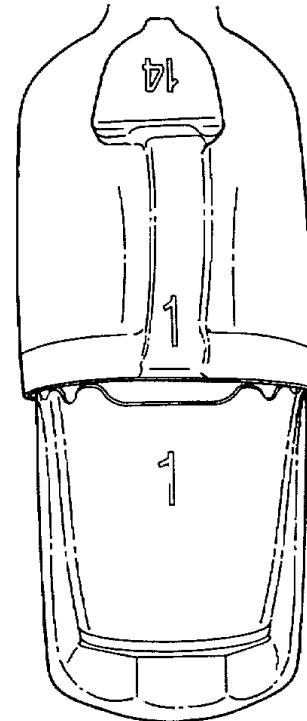
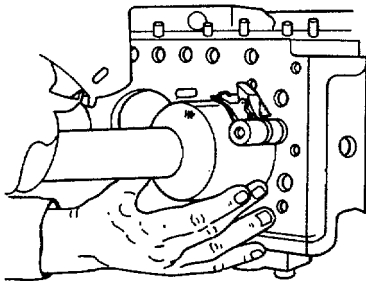

Figure 5-20. Connecting Rod Matching Ends.
Figure 5-24. Piston Installation .
- (1) If original pistons (5) are to be installed, they must be assembled to the same connecting rod (6), i.e., no. 1 piston to no. 1 connecting rod assembly. See Figures 5-20 and 5-21 for location of piston and connecting rod numbering. Any new components fitted should be numbered the same as those that they replace.
- (2) Warm the piston (5) in a suitable clean liquid (usually water) to a temperature of 100-120°F (40-50°C). This will enable the piston pin (4) to be easily pushed into the piston bore when the piston and connecting rod (6) have been correctly aligned.
- (3) Place no. 1 piston (5) onto its head, noting the position of the mark previously made to indicate FRONT.
- (4) Hold no. 1 connecting rod (6) with the small end between the piston pin bores so that the word FRONT cast on the rod is toward the same side.
- (5) Push the piston pin (4) into the piston, locating the connecting rod (6) in position.
- (6) Install the two new retaining rings (3) securely in piston pin grooves.
- (7) Repeat this procedure for the three remaining pistons and connecting rods.
- (8) Install piston rings (1).
- (1) Before fitting the piston (5) and connecting rod assemblies (6) to their respective cylinder bores, thoroughly clean and liberally coat each bore with clean engine oil.
- (2) Turn the engine until the crankpins of no. 1 and no. 4 cylinders are at BDC.
- (3) Using a suitable ring clamp as shown in Figure 5-24, carefully compress the rings of no. 1 piston and hold in this position.
- (4) With the word FRONT on the connecting rod facing the front of the engine, insert the rod carefully into no. 1 cylinder bore.
- (5) The piston head may be gently tapped with the shaft of a hammer until all the rings have entered the cylinder bore.
- (6) Draw the connecting rod (6) toward the crankpin, and place the top half bearing shell in position. Locate the tag in the machined slot and oil it liberally. Draw the rod onto the crankpin.
- (7) Install the lower half bearing shell (11) to the connecting rod cap. Locating the tag in the machined slot, liberally oil and fit the cap to the crankpin, ensuring that the numbers on the rod and cap coincide (see Figure 5-20).
The cylinders are numbered 1, 2, 3, and 4 starting from the front (water pump) end of the engine. These components (marked as shown in Figures 5-20 and 5-21) must be returned to their original locations.